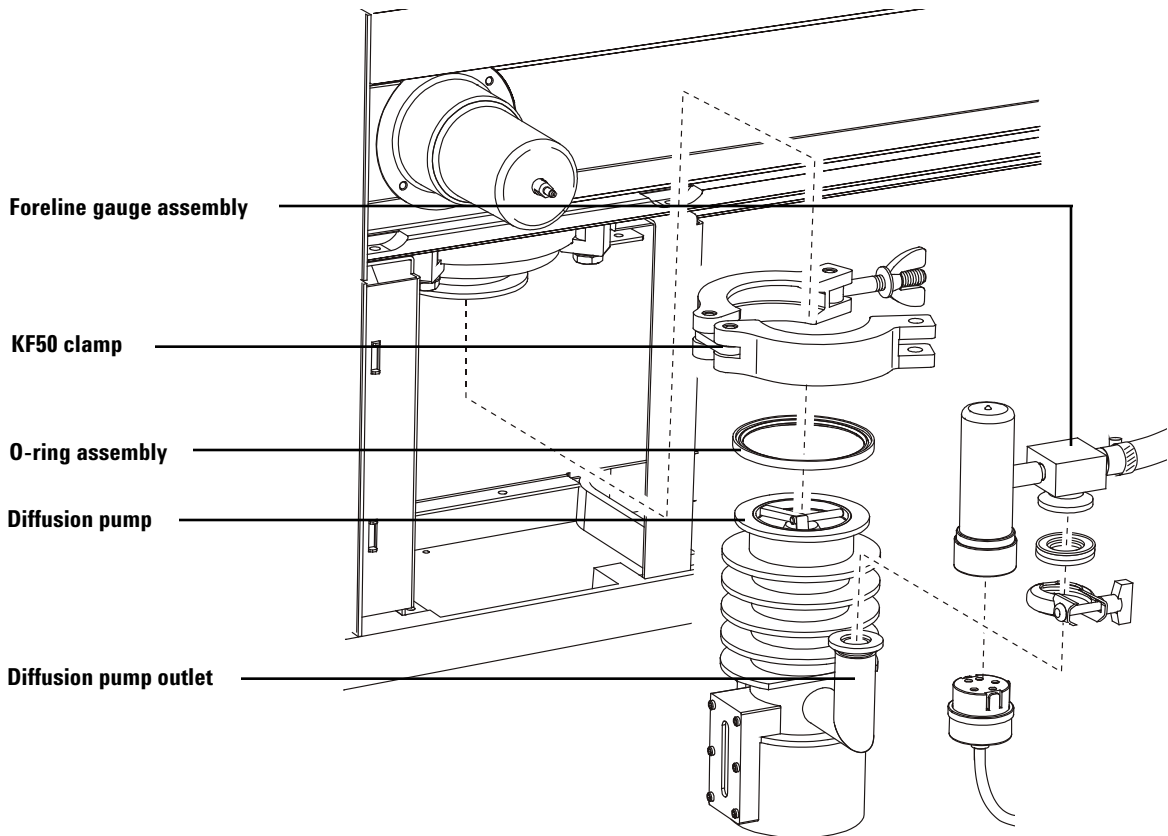

Figure 17 Removing the diffusion pump
- 7 Remove the KF50 clamp. See Figure 17.